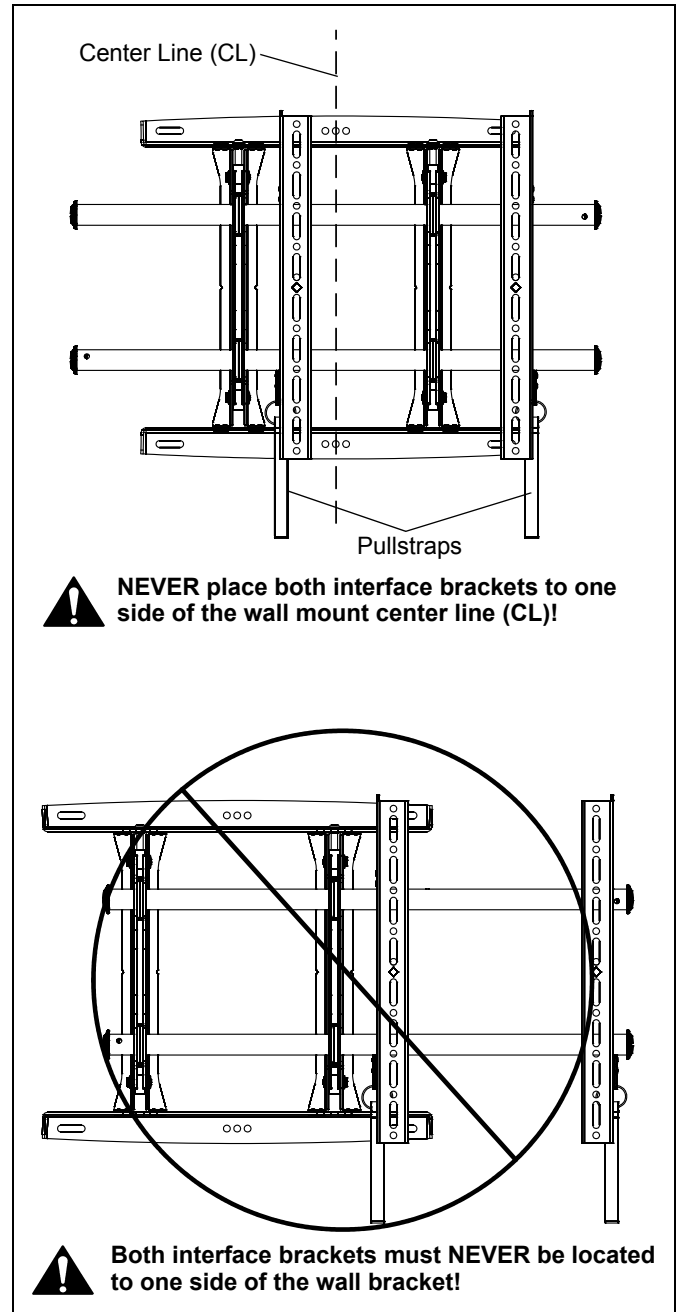

Figure 8
1. Adjust Velcro® pullstrap (if necessary) so it does not extend beyond bottom of screen. (See Figure 8)
NOTE: Do NOT allow both interface brackets to be located on same side of wall bracket. (See Figure 8)
NOTE: NEVER place both interface brackets to one side of the wall mount center line! (See Figure 8)